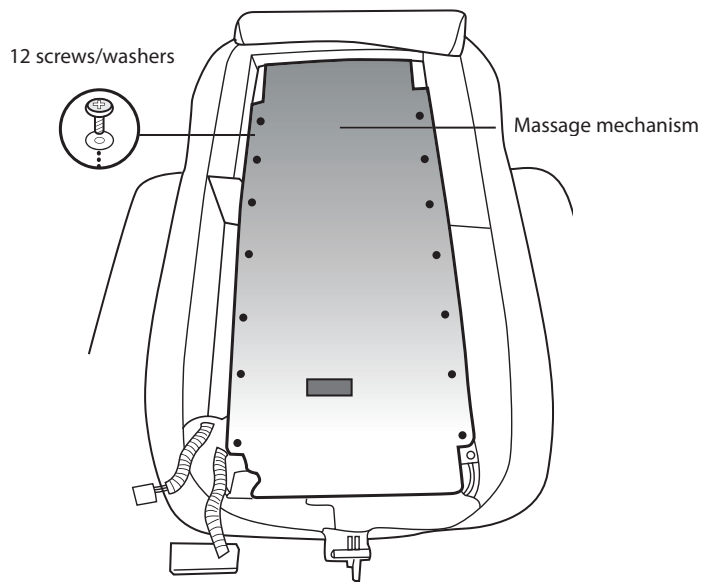

Fig.5
7. Place the PCB box gently on the floor behind the chair, then remove the foam pad to expose the massage mechanism (Fig.5).
8. Using a Phillips-head screwdriver, remove the 12 screws/washers that secure the massage mechanism to the chair (Fig.5).